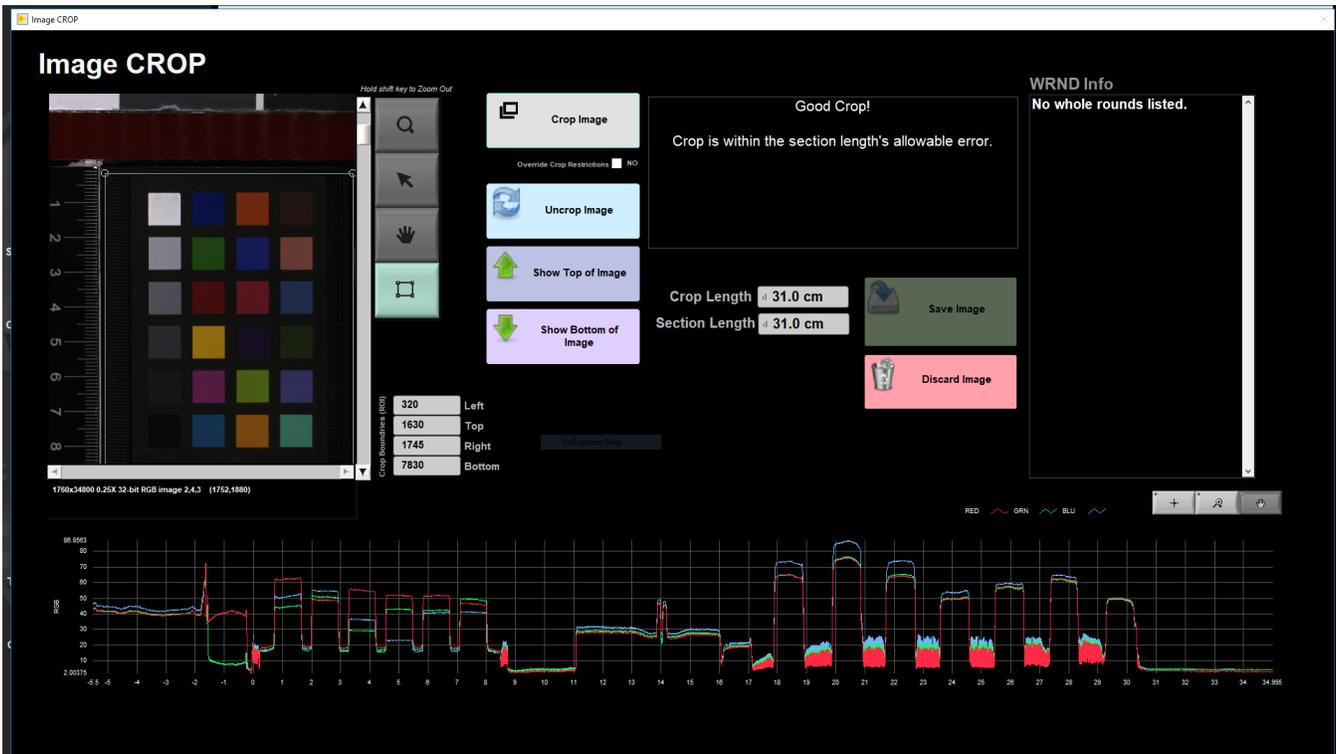

Figure 32. Crop and Save window
5. Adjust the green crop box the image to include all the ColorChecker color squares (Figure 32).